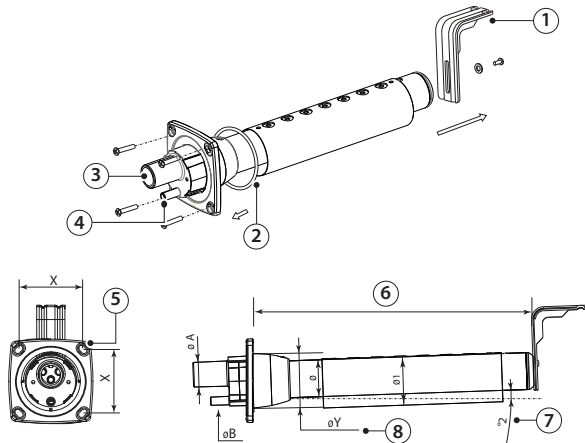

Fig. 3.b-1
2. the L-shaped supports (see element 1 Fig. 3. b) is supplied with steam distributors models from DP085* to DP205*. For shorter lengths the bracket can be supplied as optional (code 18C478A088).